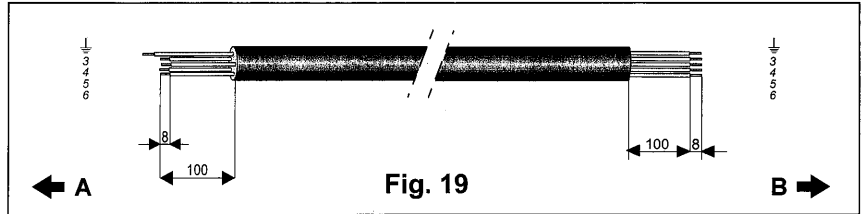

Fig. 19 A. OUTDOOR B. INDOOR
2. Prepare the multiple wire (3) cable ends for connection as shown in fig. 19.